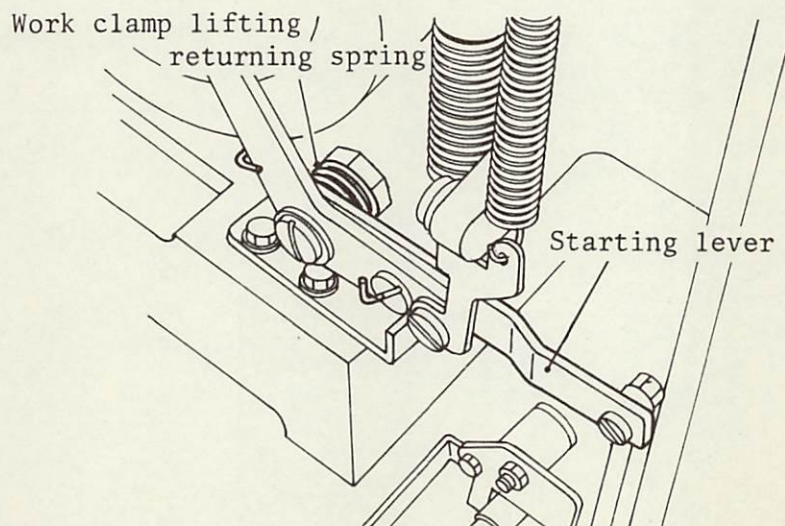

Fig.64
- 7) As shown in Fig.64, work clamp lifting returning spring is attached to the stud part of the stop-motion regulating lever of AO-10. So, when only the AO-10 is to be purchased, install the work clamp lifting returning spring to the LK-280 model and adjust so that the starting lever goes up toward the arrow direction.